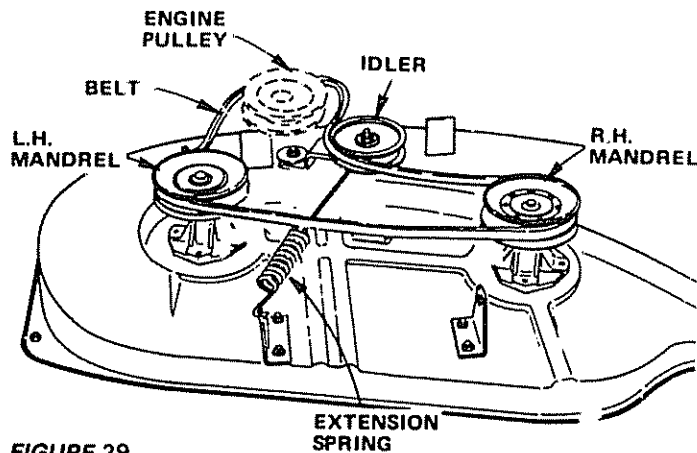

FIGURE 29
- Roll belt off mower drive pulley (Fig.29).
- Remove belt from mower pulleys and idler pulk (Fig.29).